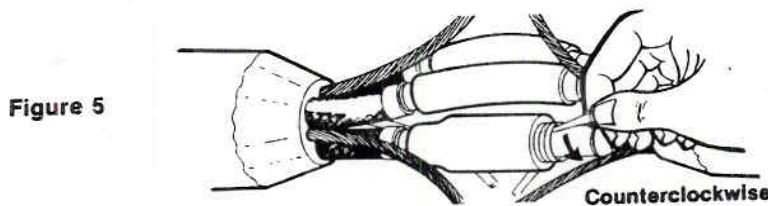

Figure 5
3. Remove cores by **UNWINDING COUNTERCLOCKWISE.** (Figure 5).